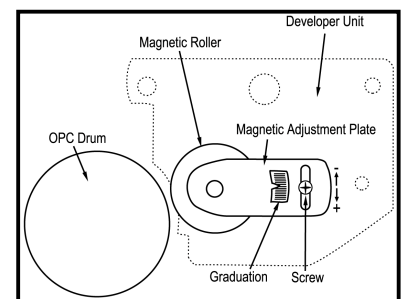

Figure 3
5. Locate the toner density/developer first-use sensor unit on the bottom of the developer unit. Remove the cover. De-solder the two center leads (Fig. 3) on the green circuit board and remove the screw. Flip the green circuit board over and remove the old fuse. Insert and solder new fuse. Secure green circuit board to developer unit and replace the cover.